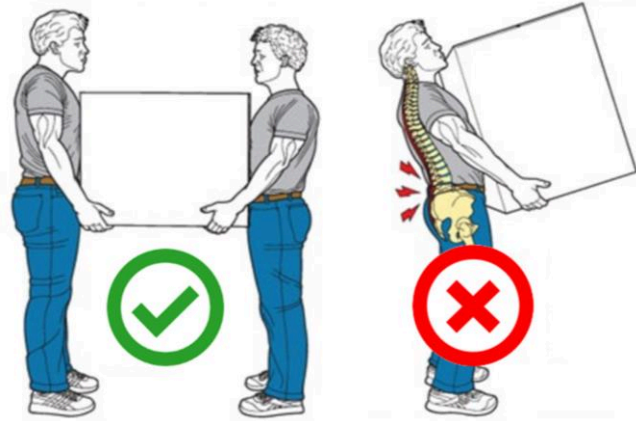

Fig. 6-21 - Handling technique
- Ensure at least two operators manage the lifting of bulky loads (Fig. 6-21);